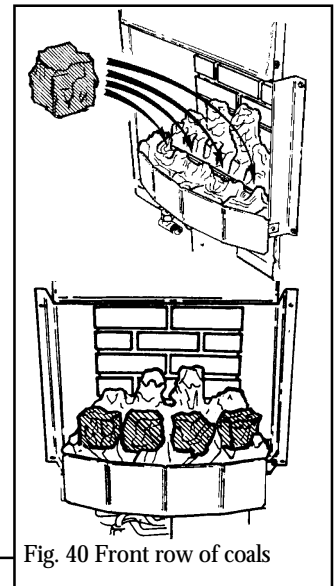

Fig. 40 Front row of coals
13.4.1 Select the two smallest coals and put them aside until all the other coals are installed. Place four of the medium size coals in the four valleys of the front coal. Place the left side coal so that the pilot flame will be visible. (See figure 40).